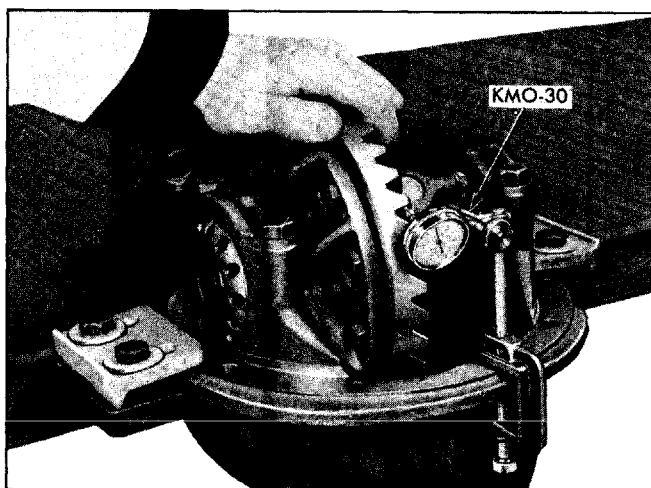

Fig. 4-17 Checking Backlash With Indicator KMO-30 Set
1. Check backlash between ring gear and pinion using indicator set KMO-30 (Fig. 4-17). Backlash should be between .003" and .012", checked at two or more equally spaced points around ring gear. If backlash is outside limits, it will be necessary to move gear away from the pinion to increase backlash or toward pinion to decrease it. To change backlash, move adjusting nuts in same direction one notch at a time until correct backlash is obtained; that is if left nut is backed off one notch, the right nut must be tightened one notch.